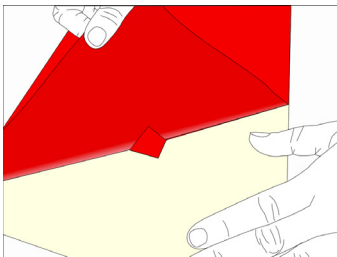
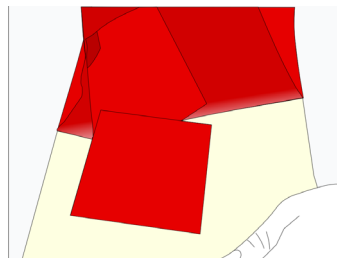

Figure 02
Figure 03
- › that the cut square adheres well to the liner; (FIG. 02) (FIG. 03)